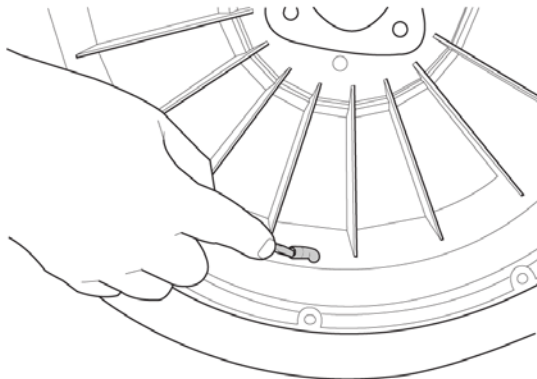

Figure 4-5: Deflate Tire
3. Remove valve stem cap and release air from tire by pushing down on valve needle. Maintain downward pressure on valve needle while squeezing tire to ensure tire is completely emptied of air. (Figure 4-5)